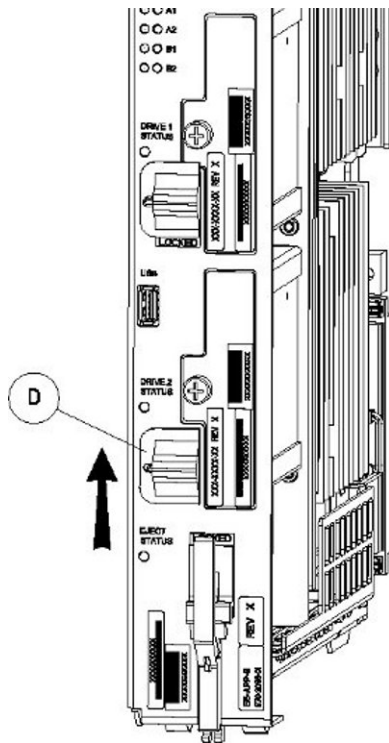

Figure 38: Drive Module Locked
4. Move the drive module locking switch (D) from the unlocked to the LOCKED position.
When drive module locking switch (D) is transitioned from unlocked to locked, the LED will flash red to indicate the drive is locked and in process of coming online (see Figure 38: Drive Module Locked).